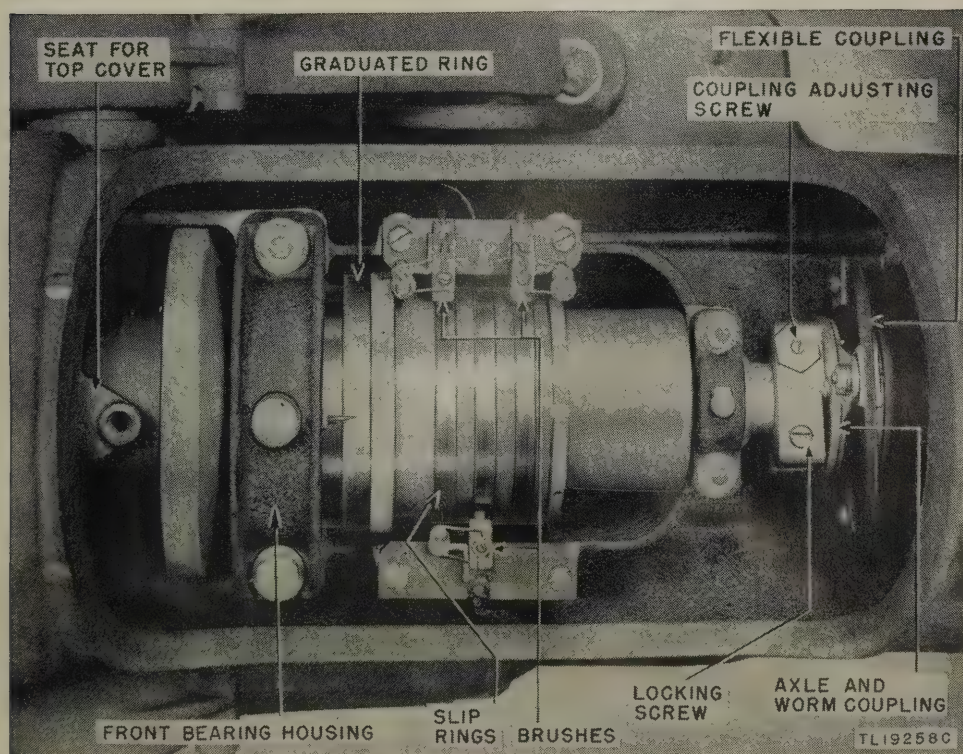

Figure 102. Bearing Indicator BC-1159-A, demagnetizing and goniometer adjustments.
- (3) Hold the demagnetizer head close to, *but not in contact with*, the front bearing housing (fig. 102).
- (1) Turn the control panel MOTOR and POWER switches to OFF.
- (2) Open the bearing indicator cover.
- (3) Grasp the flexible leather coupling and use a screwdriver to loosen the locking screw on the axle and worm coupling (fig. 102).
- (4) Observe the graduated ring reading under the index stud.
- (5) Hold the flexible coupling firmly in position and turn the coupling adjustment screw in the same direction that the pattern must be moved to correct the error. While turning the adjustment screw, watch the graduated ring reading. When the reading changes by the same number of degrees as the pattern error, *tighten the locking screw.*
- (6) *Make sure that the locking screw is tight, start the indicator, and check the pattern error.*
- (7) If the error is now less than  $1^\circ$ , loosen